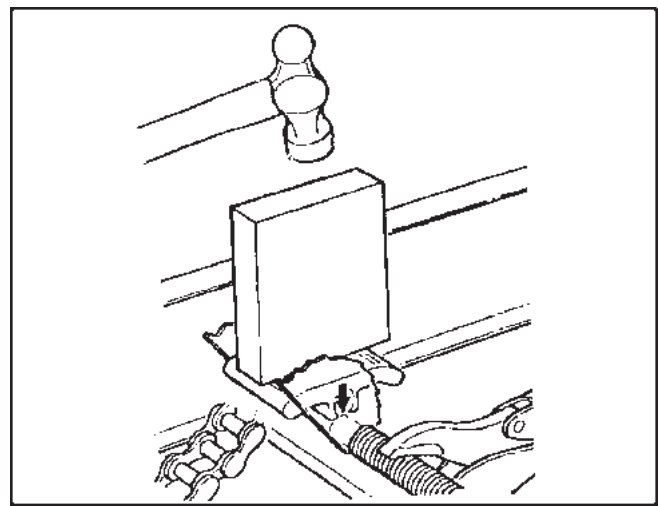

Figure 7-11. Hammering Slider Block into place.
5. Using a piece of wood (or similar material) pressed against the top of the slider block, carefully hammer the piece of wood so the slider block snaps onto the cam assembly shaft as shown in Figure 7-11.